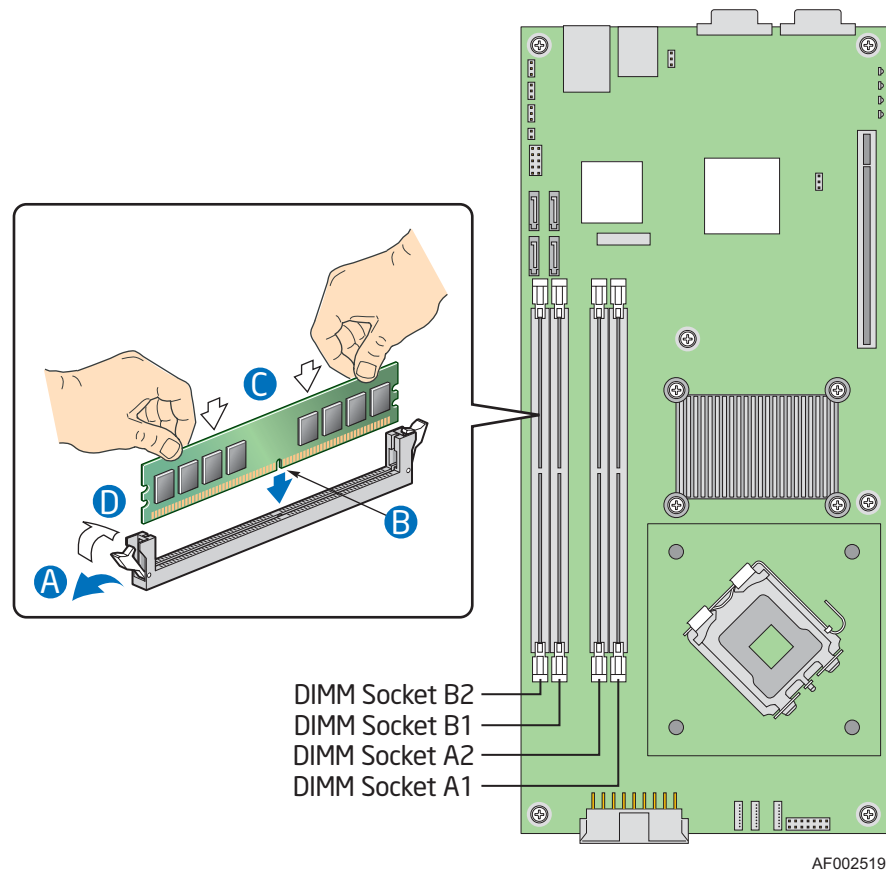

Figure 5. Installing DIMMs
5. Make sure the clips at both ends of the DIMM socket(s) are pushed outward to the open position. See letter "A" in Figure 5.